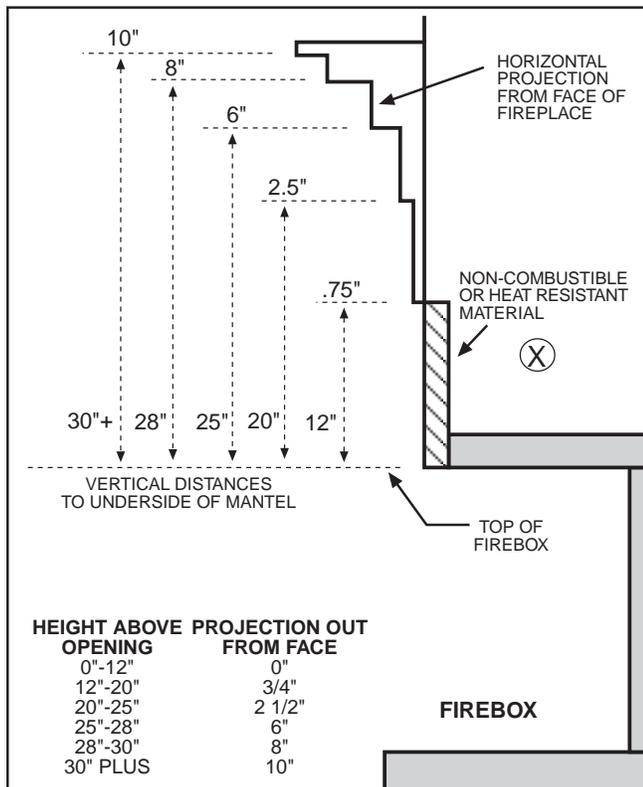
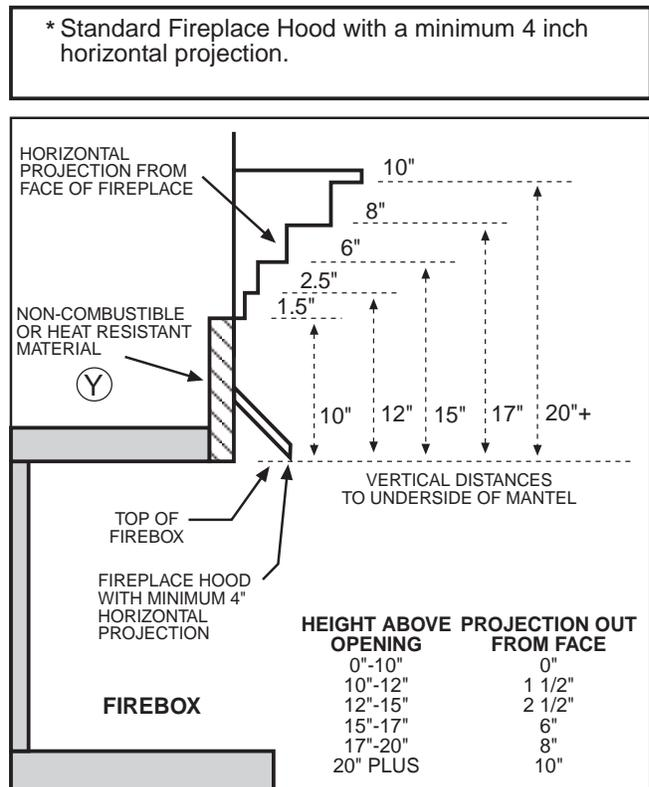

Figure 8
Figure 9
Mantel:	See page 14 (Figures 8 and 9) (Section A).
If you DO NOT install a fireplace hood, there MUST be at least 12" of non-combustible or heat resistant material immediately above the fireplace opening. (See X in figure 8 below).
If you DO install a fireplace hood, there MUST be at least 10" of non-combustible or heat resistant material immediately above the fireplace opening. (See Y in figure 9 below).
If there is a wooden mantel, shelf, or other combustible projection above the fireplace, follow the information in figure 8 or figure 9 below:
1. If a fireplace hood is not installed - 2.5" (see figure 8).
2. If a fireplace hood is installed - 10" (see figure 9).